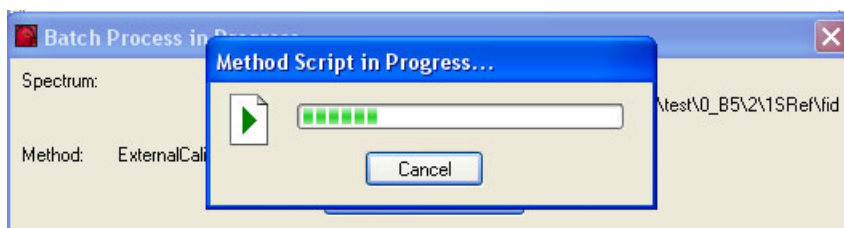

Figure 42 Batch process in progress
- **Start Batch Process:** Starts a batch process (Figure 42). The current spectrum in progress will be shown in the appearing window. The process for one spectrum can be stopped with the “Cancel” button.